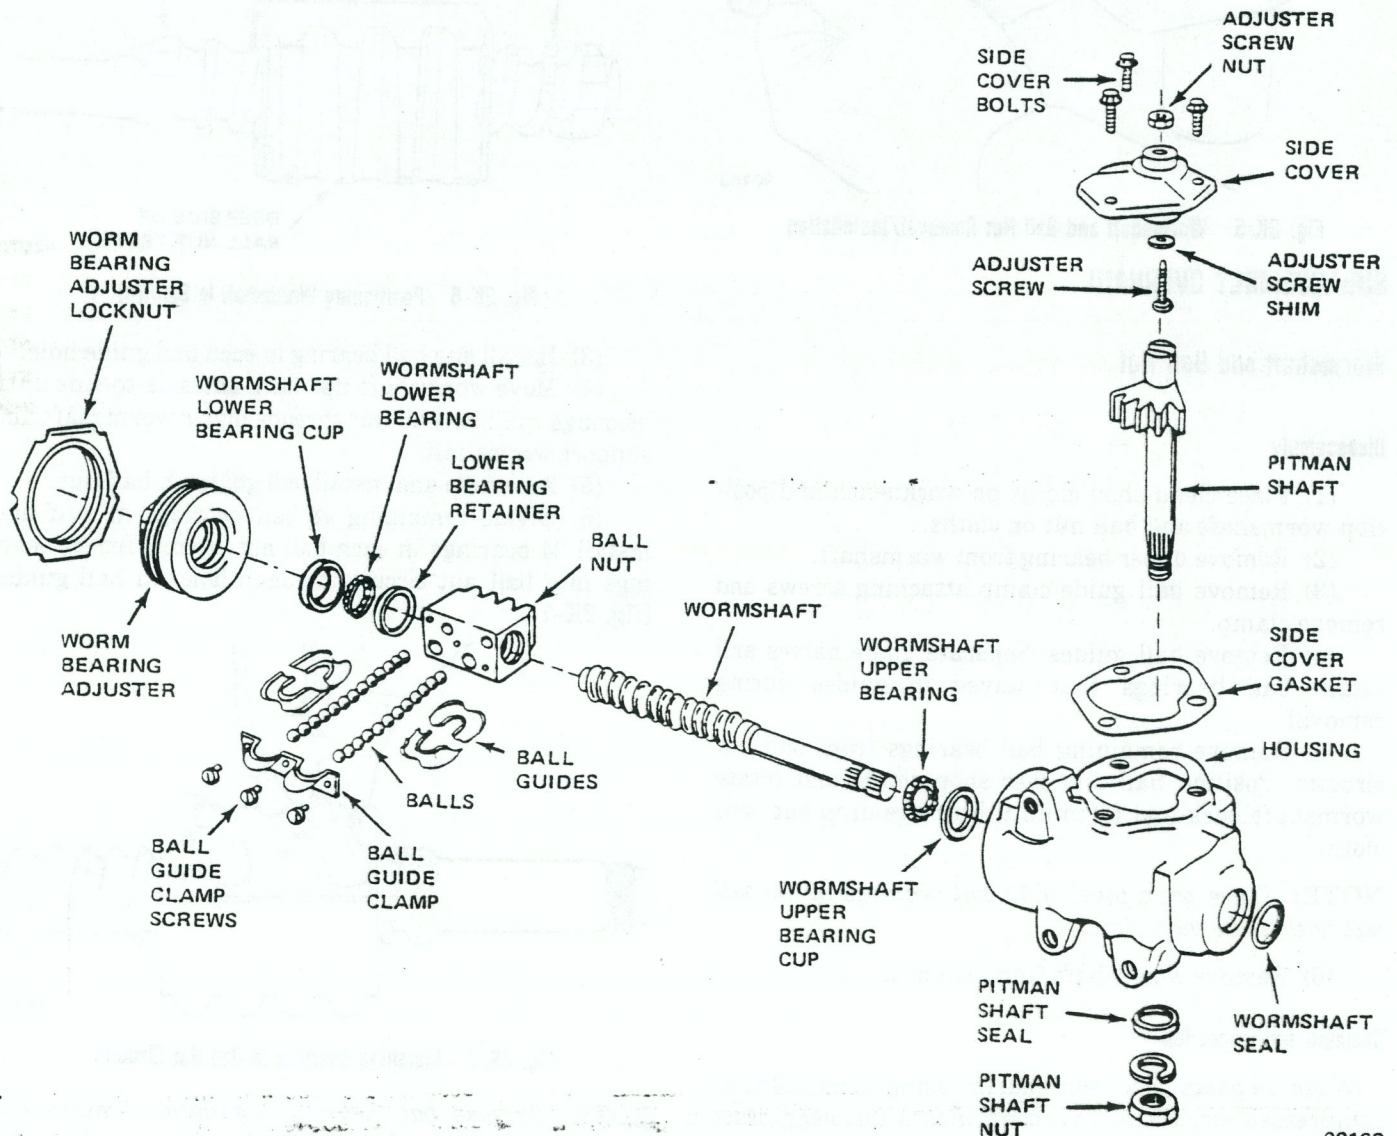

Fig. 2K-4 Manual Steering Gear
(4) Remove side cover attaching bolts (2K-5).
(5) Turn pitman shaft adjuster screw clockwise to unthread side cover from screw and remove side cover and gasket.
(6) Slide adjuster screw and shim out of T-slot in pitman shaft (fig. 2K-4). Retain shim and screw for end play measurement at assembly.